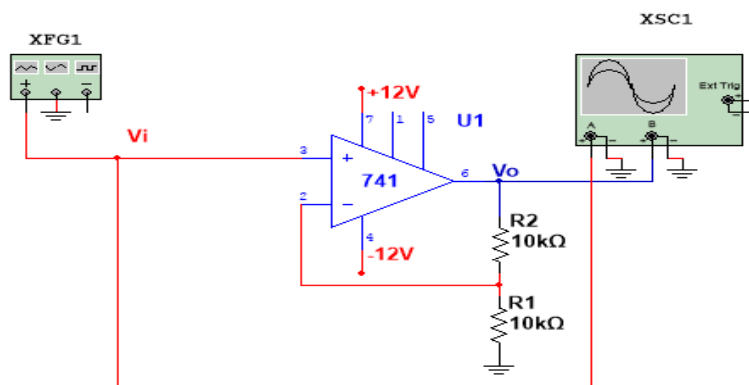

Figure 7.2: Non-Inverting Operational Amplifier
1. Connect circuit diagram according to given circuit diagram as shown in Figure 7.2.